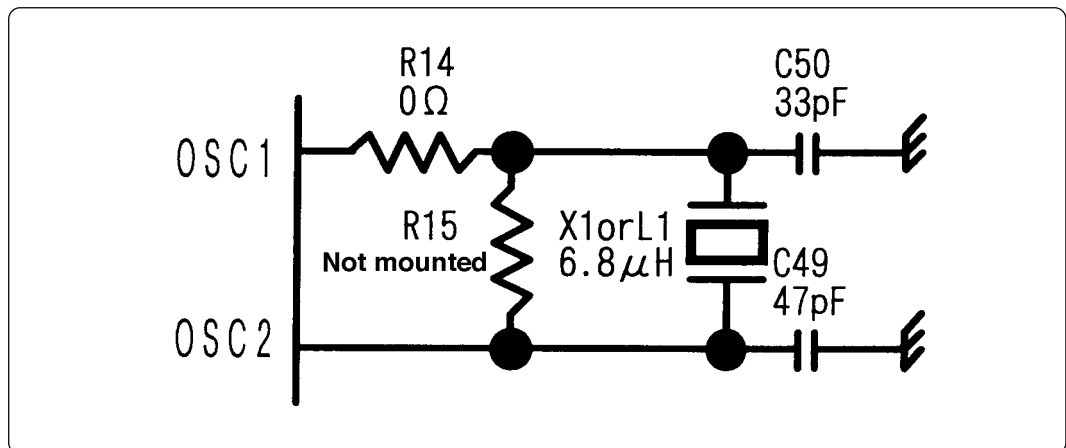

Figure 3.12 Signal circuits of OSC1 and OSC2 pins
(4) Figure 3.12 shows the numbers of parts which are connected to OSC1 and OSC2 pins, the constants of parts and the connection circuits.